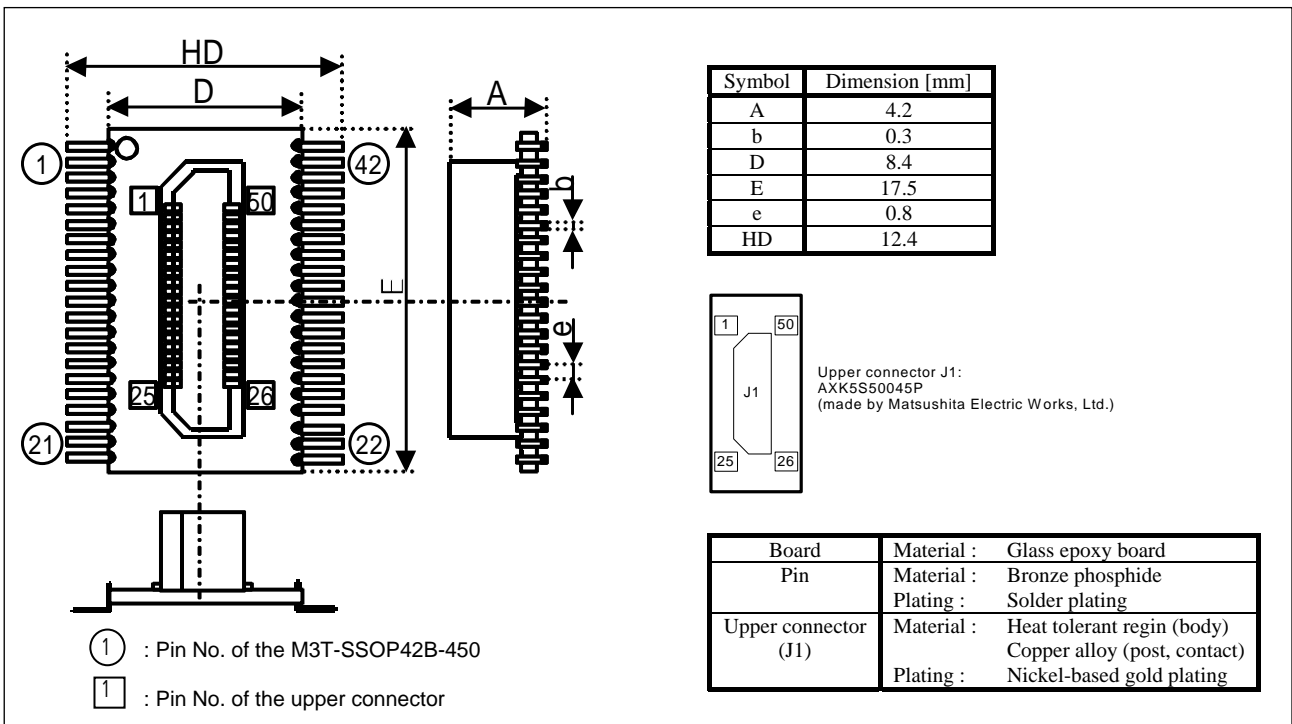

Figure 4 External Dimensions of the M3T-SSOP42B-450
6. External Dimensions of the M3T-SSOP42B-450 (See Figure 4)